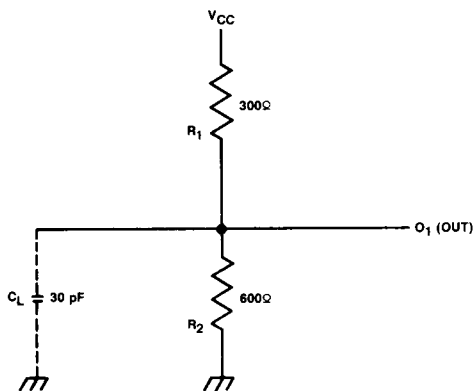

Figure 1
- ① Output Load: See Figure 1.
- ② Input Waveform: 0.0V for low level and 3.0V for high level, less than 10 ns for both rise and fall times.
- ③ Measurement References: 1.5V for both inputs and outputs.
- ④ CL in Figure 1 includes jig and probe stray capacitances.